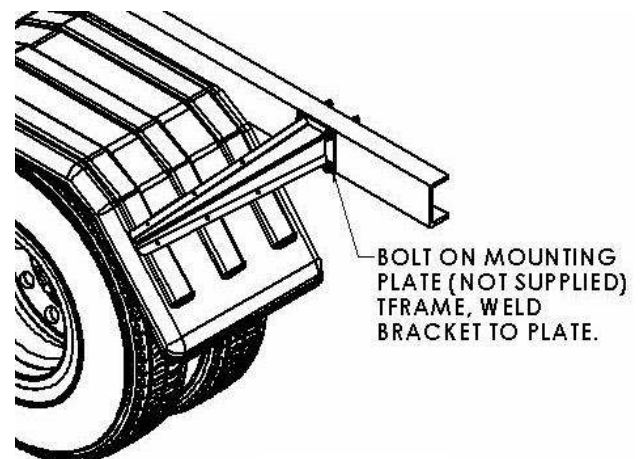

Figure 7
- B. It is possible to bolt a plate (not supplied) to the frame and weld the brackets to that plate (Figure 7). Another option is to weld the bracket directly to the frame.